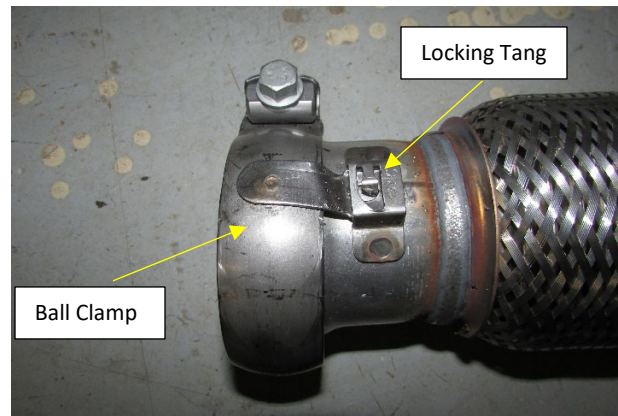

Figure. 5
1. Bend the small locking tang of the OEM band clamp to unlock it from the OEM Muffler inlet pipe. Remove the band clamp from the OEM Muffler Inlet pipe. **Fig.5**